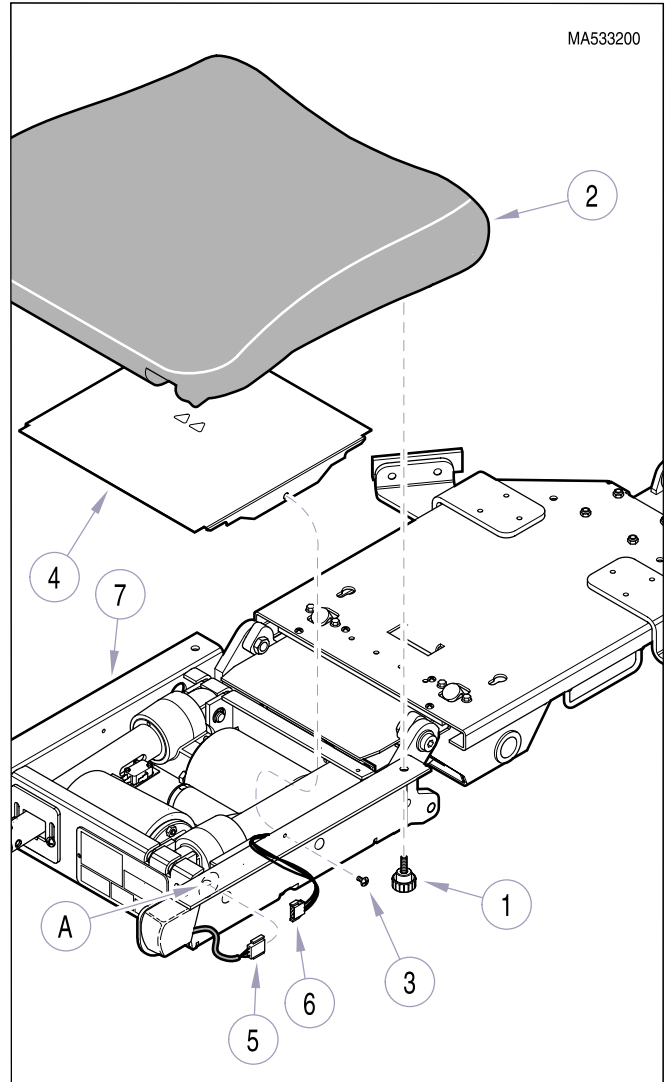
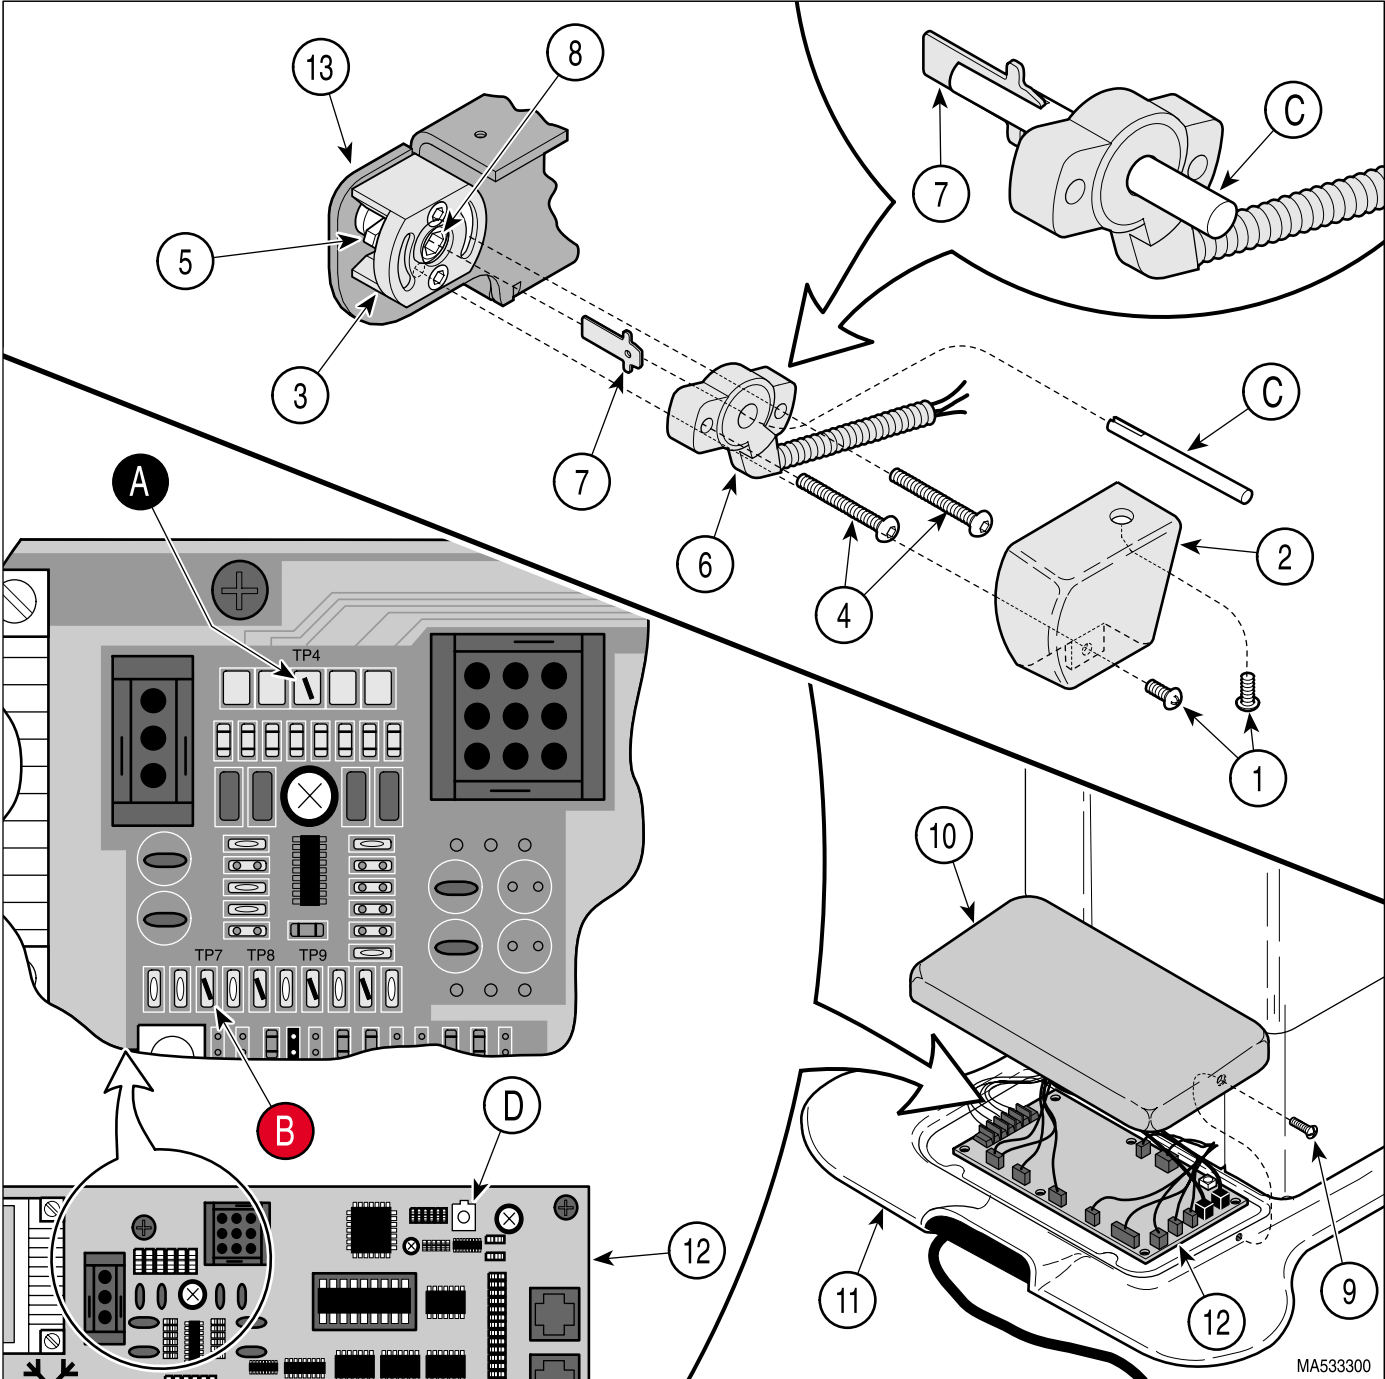

Figure 4-52. Foot Position Sensor Removal / Installation
Figure 4-53. Foot Position Sensor Removal / Installation / Adjustment
- (1) Run FOOT DOWN function all the way down.
- (2) Unplug table power cord from outlet receptacle.
- (3) Remove four knobs (1, Figure 4-52) and seat upholstery (2).
- (4) Remove two screws (3) and electrical cover (4).
- (5) Disconnect foot sensor harness (5) from harness (6); then pull foot sensor harness thru access hole (A) in seat weldment (7).
- (6) Remove two screws (1, Figure 4-53) and foot sensor cover (2) from position sensor mount (3).
- (1) Remove two screws (9, Figure 4-53) and PC board cover (10) from base casting (11).
- (2) Connect negative (black) lead of multimeter to TP4 (A, Figure 4-53) and positive (red) lead of multimeter to TP7 (B) on PC control board (12).
- (3) Set multimeter to VDC setting. Then, set the voltage range of the multimeter to the 0-20 VDC range.
- (4) Feed foot sensor harness (5, Figure 4-52) thru access hole (A) in seat weldment (7).
- (5) Connect foot sensor harness (5) to harness (6).
- (6) Plug table power cord into outlet receptacle.
- (7) Run FOOT UP function all the way up.
- (8) Slide sensor holder tool (C, Figure 4-53) thru the center hole of foot position sensor (6).
- (9) Insert 5/16" hex drive (7) into slot of sensor holder tool (C).
- (10) Pull on sensor holder tool (C) until 5/16" hex drive (7) is engaged with foot position sensor (6). Then, rotate sensor holder tool slightly to apply friction on 5/16" hex drive and prevent it from "popping" out as foot position sensor is installed. The 5/16" hex drive is properly engaged when spring tension is felt as the sensor holder tool is rotated. Also, the multimeter should read approximately 0.5 to 0.7 VDC and the reading should change as the tool is rotated.
- (11) While applying slight rotational pressure and gentle back pressure on sensor holder tool (C) to keep 5/16" hex drive (7) in position, install foot position sensor (6) on position sensor mount (3). Move foot position sensor around as necessary while pushing foot position sensor inward until it is fully seated.
- (12) Coat threads of two screws (4) with removable threadlocking adhesive (Loctite 242); then secure the foot position sensor (6) on position sensor mount (3) with backing plate (5) and two screws (4). Tighten screws very lightly, so that the foot position sensor may be rotated for adjustment, but do not let sensor pop out of mounting position.
- (13) Pull sensor holder tool (C) from foot position sensor (6).
- (14) Rotate foot position sensor (6) until multimeter reads approximately $0.50 \text{ VDC} \pm 0.2 \text{ VDC}$; then tighten two screws (4) to secure foot position sensor in place.
- (15) Lower FOOT DOWN function all the way down (until it freewheels) while observing the multimeter reading; the reading should increase steadily during the table movement. If the voltage reading stops increasing before the actuator reaches its end of travel and freewheels, the foot position sensor (6) has reached the dead spot at the end of its range. If this happens, return to step 14 and readjust the foot position sensor as determined necessary to eliminate the dead spot.
- (16) Run FOOT UP function for approximately 1/10 second (the minimum amount of time the button can be pressed and still have the table move slightly). Then, run FOOT UP function all the way up and repeat step using the FOOT DOWN function.
- (17) Run FOOT UP function all the way up (until foot actuator freewheels). The multimeter reading should be approximately $0.50 \text{ VDC} \pm 0.2 \text{ VDC}$ and no dead spot should be observed. If not, repeat entire procedure.
- (18) Remove multimeter leads from TP4 (A) and TP7 (B) of PC control board (12).
- (20) Install electrical cover (4, Figure 4-52) and secure with two screws (3).
- (21) Install seat upholstery (2) and secure with four knobs (1).
- (22) Unplug table power cord from outlet receptacle.
- (23) Depress and hold the PROGRAM / FAULT CLEAR button (D, Figure 4-53) while simultaneously plugging the table power cord into the outlet receptacle.